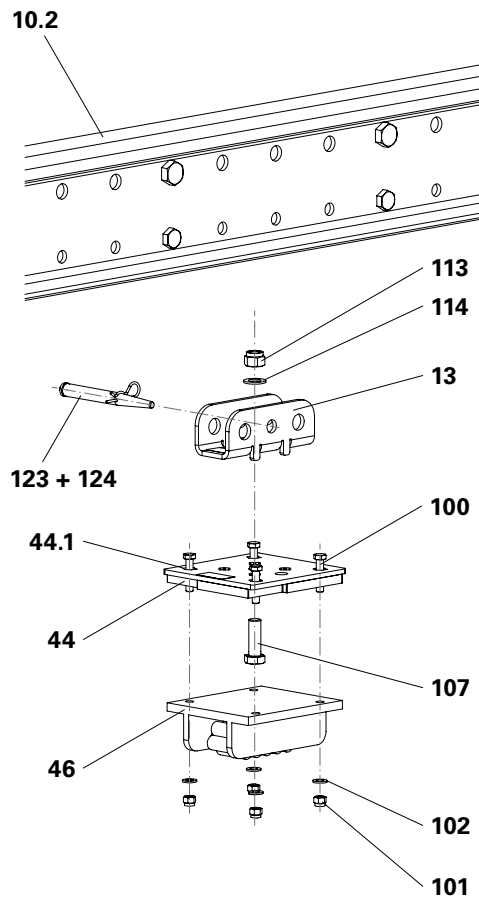

Fig. B3.22
1. Insert bolt M20x40 (107) through the centre hole of the Heavy-Duty Roller Swivel Plate (44). The bolt head must be flush with the Heavy-Duty Roller Swivel Plate.
2. Insert the Connector RCS LALD (13) in the Heavy-Duty Roller Swivel Plate (44) and secure with washers M20 (114) and self-securing nuts M20 (113).
- ▶ Ensure that the snap tabs of the Connector RCS LALD (13) snap into the recesses of the Heavy-Duty Roller Swivel Plate (44).
3. Insert bolts M12x55 (100) into the holes (44.1) of the Heavy-Duty Roller Swivel Plate (44). The bolt heads must be flush with the Heavy-Duty Roller Swivel Plate.
4. Secure the Heavy-Duty Roller 200kN (46) with washers M12 (102) and self-securing nuts M12 (101).
5. Fix the assembly unit on the assembly position with fitting pins 21x120 (123) and secure with cotter pins 4/1 (124). (Fig. B3.22)